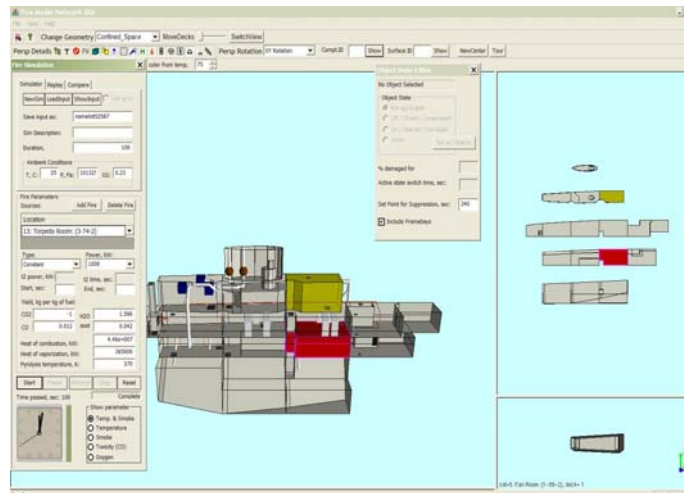

Figure 3.8 Simulation Visualization
Step 8: The program should start running and in a few seconds, you should see compartment 13 turn yellow, then red as simulation runs, and another compartment turn yellow as shown in Figure 3.8. The simulation should stop when the time reaches 100 seconds.